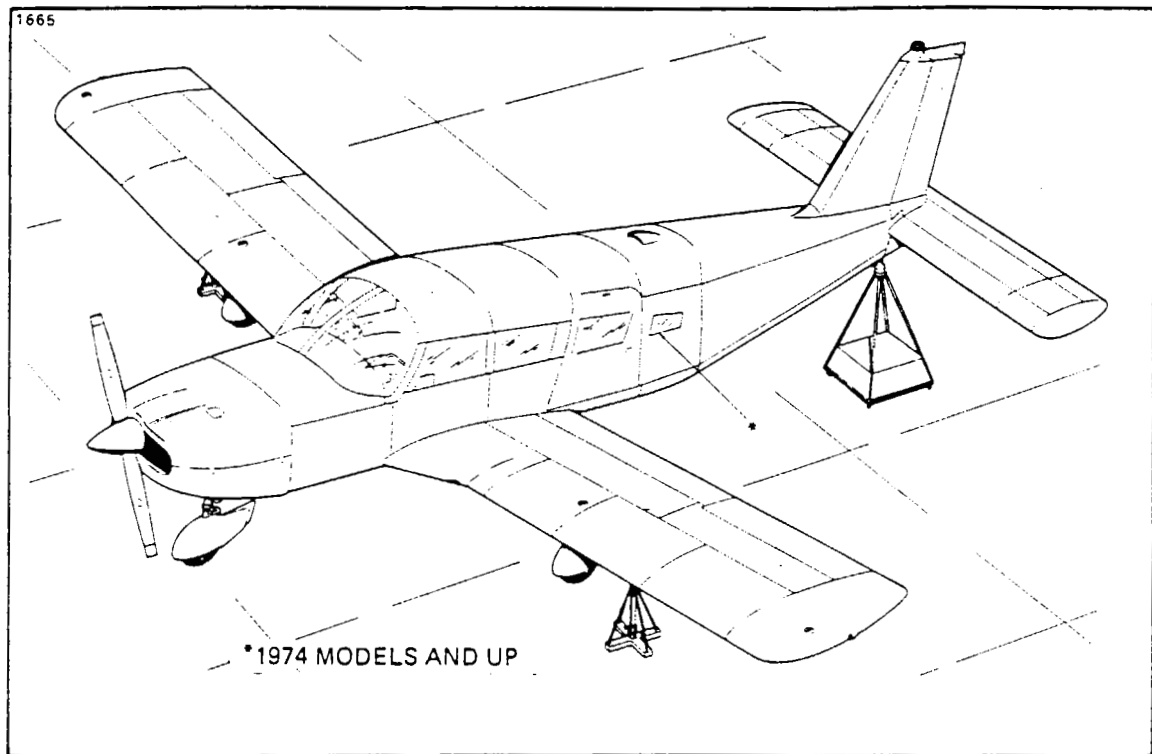

Figure 2-4. Jacking Arrangement
- a. Place the jacks under jack pads on the front wing spar. (Refer to Figure 2-4.)